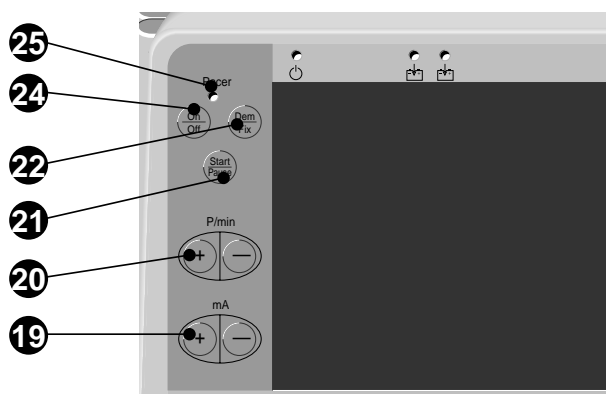

Figure 6-1. Pacemaker operating controls
- Press  (24, Figure 6-1) to turn on the pacemaker.
- Select a low pacer current output with , e.g. 20 mA (19, Figure 6-1).
- Press  (24, Figure 6-1) to turn on the pacemaker. The device defaults to the Demand mode and selects a pacer rate of 60 P/min (configurable).
- Indicator 25 (Figure 6-1) goes off briefly with each **delivered** pacing pulse.